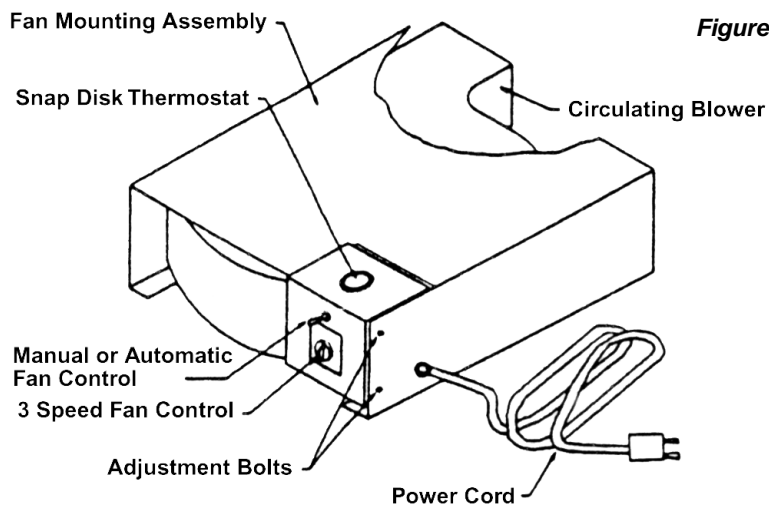

Figure 6
**Blower.** The optional three-speed blower has been added to provide you additional heating value. The thermostatically controlled blower has manual and automatic controls (see Figure 6).
A 2 x 4 junction box is to be mounted on the right side of the cabinet and supplied with 110 volt AC current. The snap disc thermostat located on the top of the blower assembly must be in contact with the bottom of the firebox. This can be adjusted by loosening the two adjustment bolts on the blower housing. Set snap disc thermostat to touch the bottom of the firebox and tighten the adjustment bolts (see Figure 6).